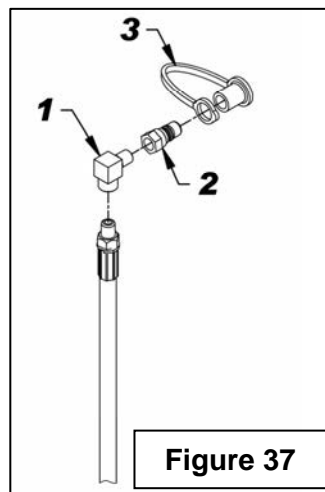

Figure 37
14. **Figure 37:** Install a 1/4" NPT elbow (item 1), a 1/4" NPT male quick coupler (item 2) and a dust cap (item 3) on the hose with the red identification ring